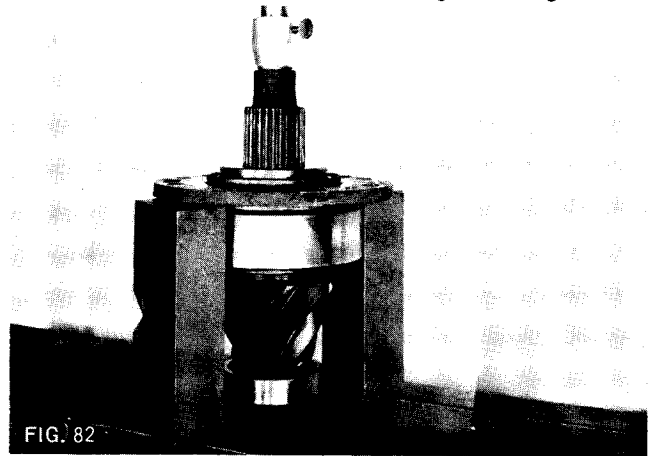

FIG. 82
1. Press pinion shaft from pinion bearing cage assembly. This will release outer pinion bearing cone (Fig. 82).